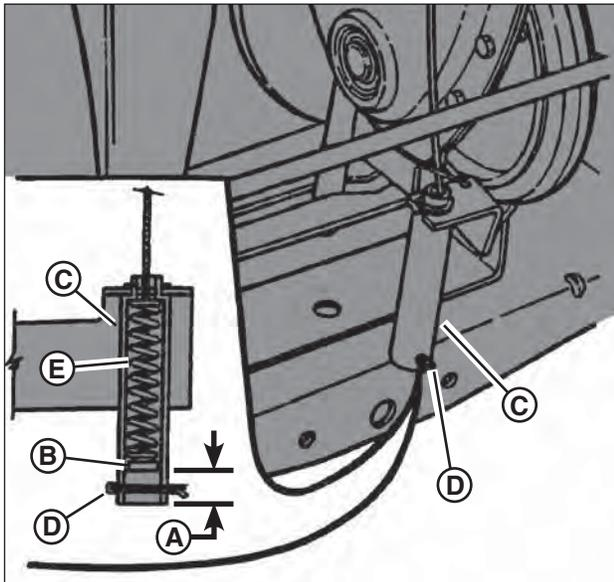

Figure 39: Adjusting the brake cable
2. Measure the distance (A, Figure 39) between the end of the clutch/brake cable (B) and the bottom of the housing (C). The measurement should be no less than 1/2" and no greater than 3/4".
*NOTE: The cotter pin and brake spring (D and E, Figure 39) are noted for reference purposes only.*
4. Adjust the cable up or down using the jam-nuts to obtain a distance of 1/2" to 3/4" between the end of the clutch/brake cable (adjustment shown in inset of Figure 39) and the bottom of the housing.